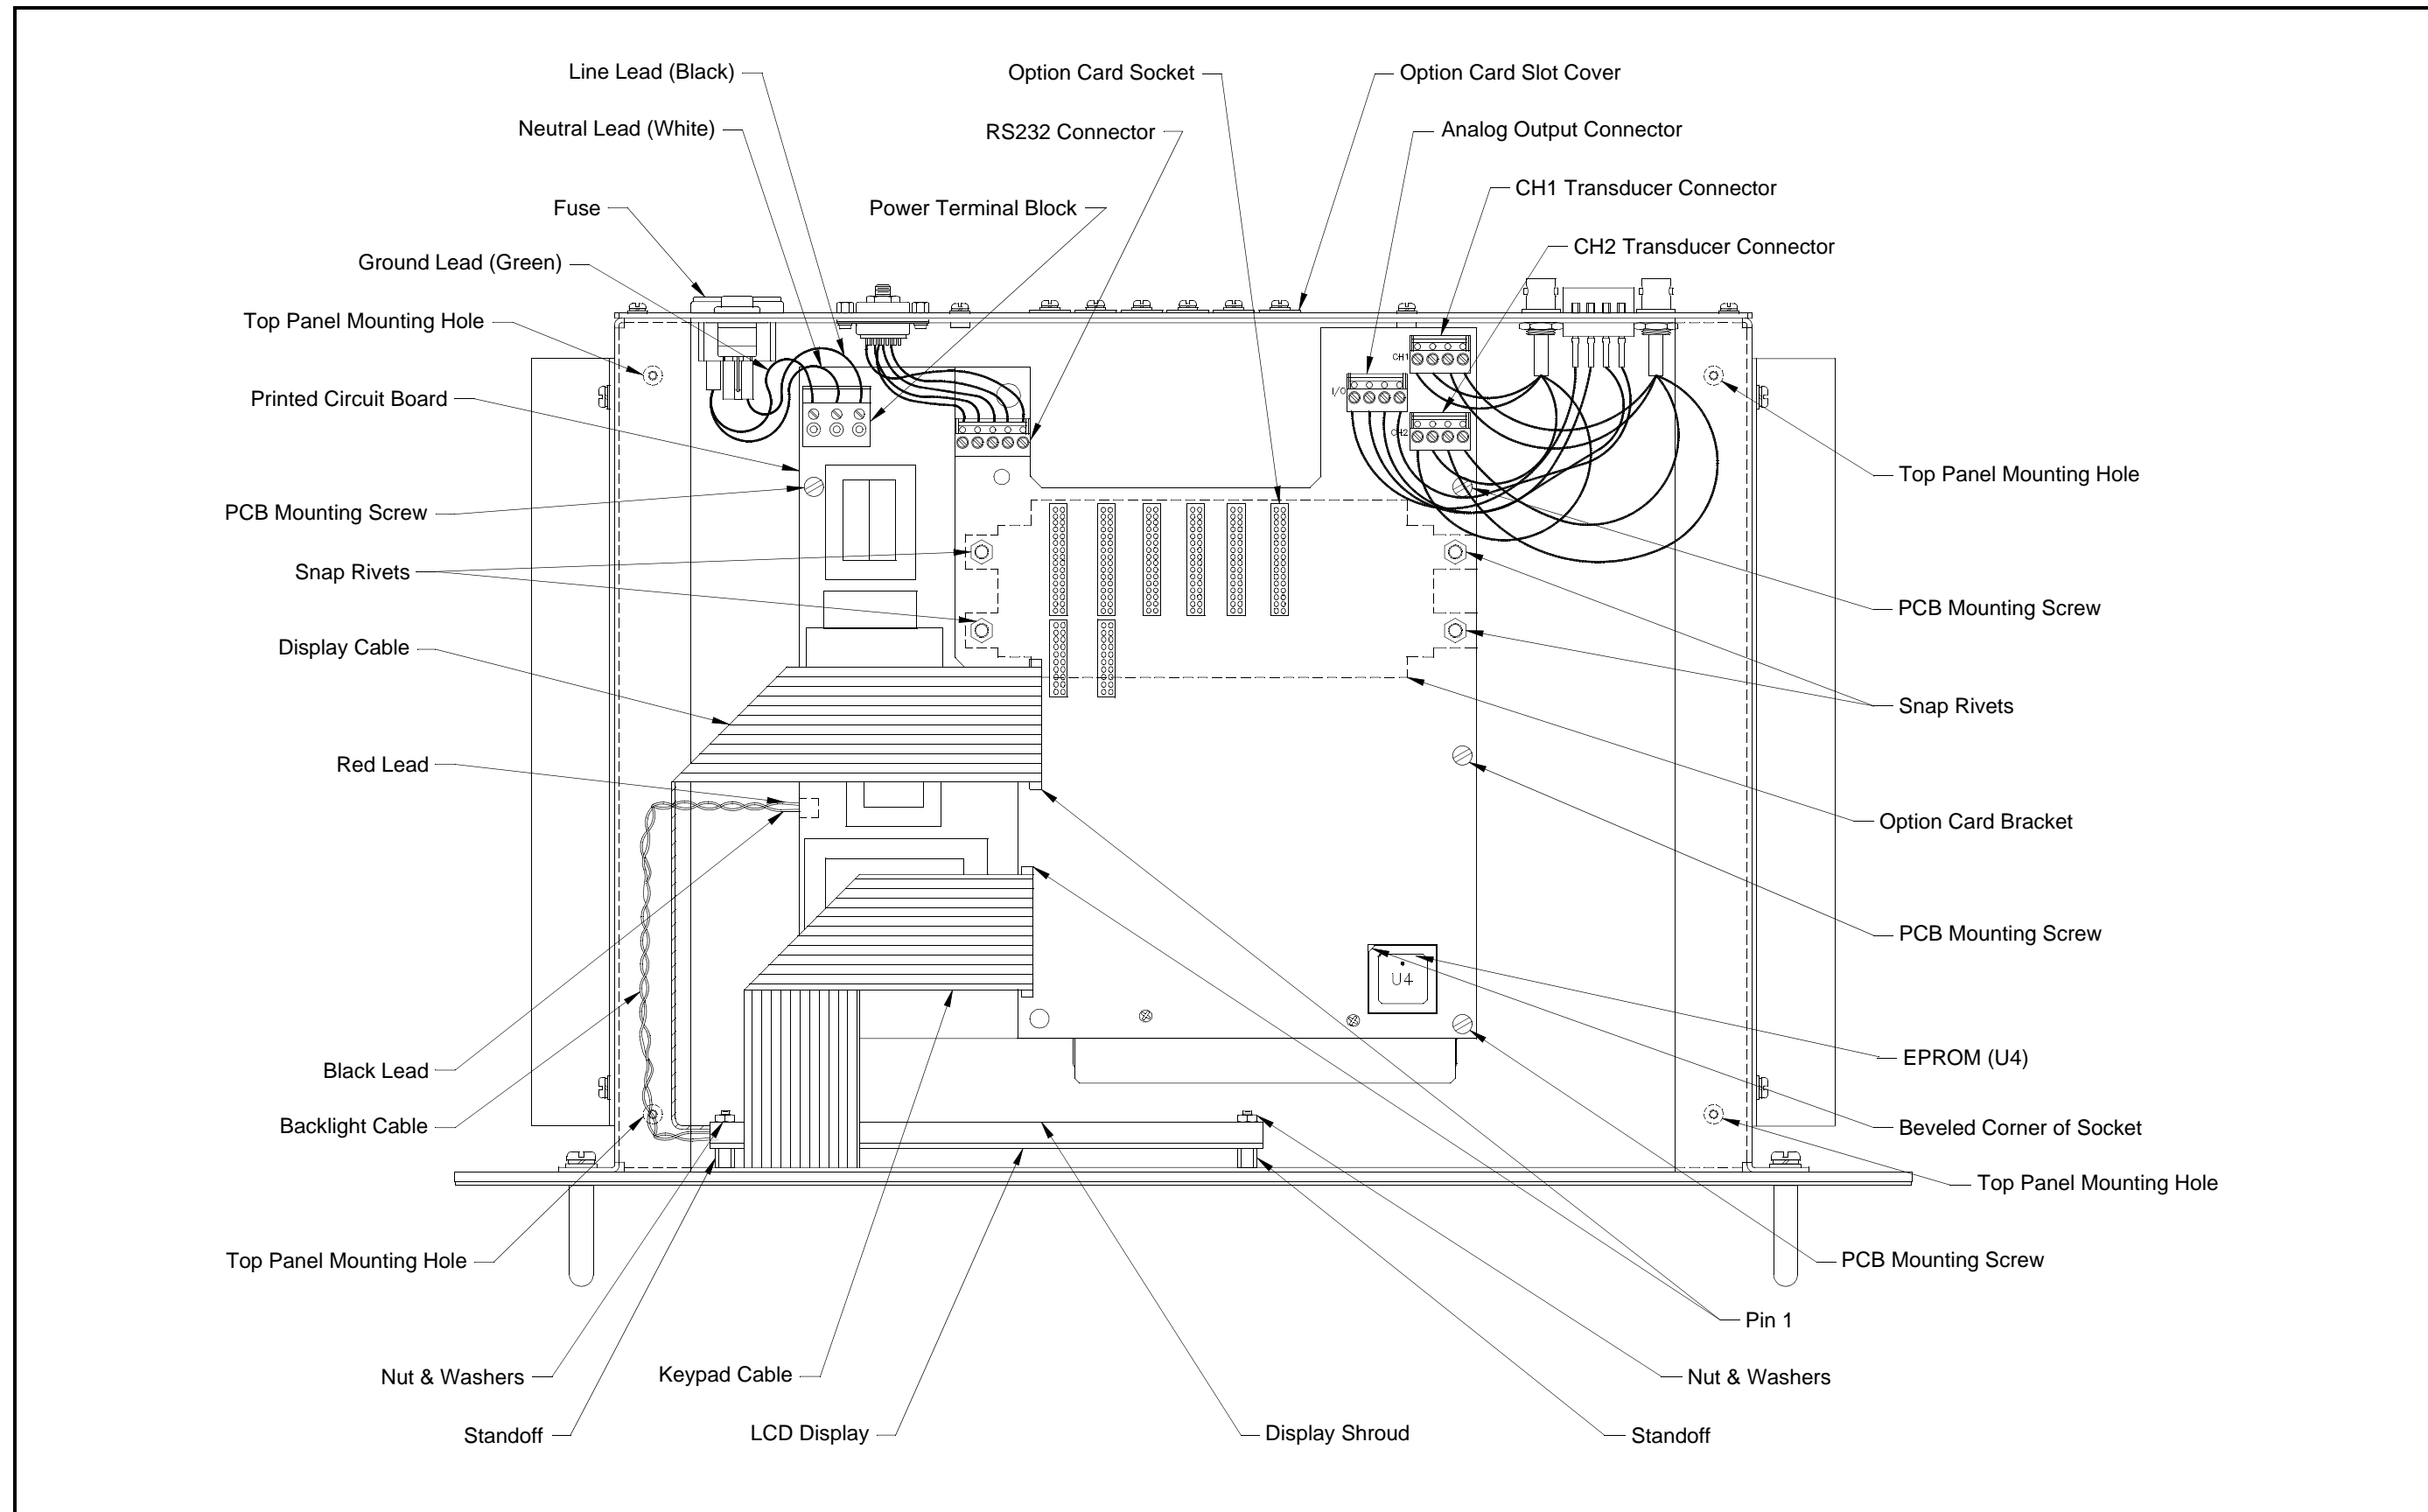

Figure B-2: Model G868 Rack Mount Console Assembly - Drawing #705-849
Refer to Figure B-2 on page B-11 and complete the following steps:
EPROM replacement may be required to replace a defective chip or to upgrade to a newer software version. To replace the EPROM, refer to Figure B-2 on page B-11 and complete the following steps:
To replace the LCD display, refer to Figure B-2 on page B-11 and complete the following steps:
5. Install the RS232, ANALOG OUT and TRANSDUCER connectors onto the printed circuit board at the locations indicated in Figure B-2 on page B-11. Make sure the marked pin #1 sides of the connectors face the right side (keypad side) of the enclosure.